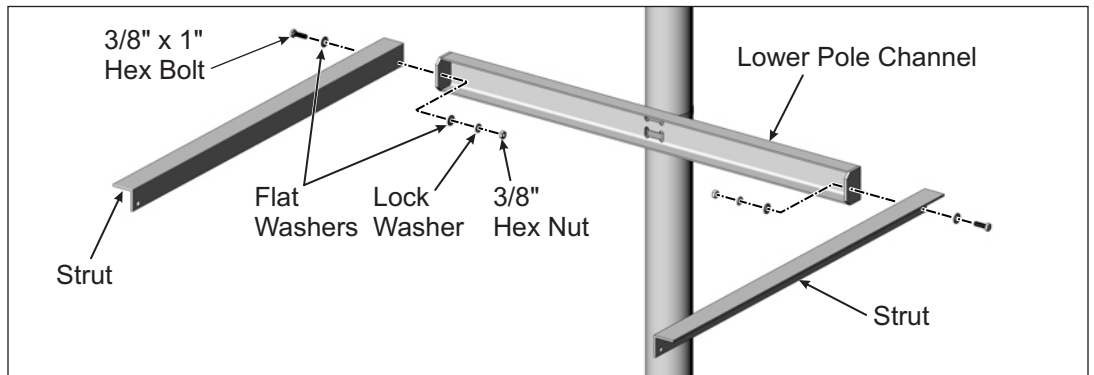

Figure 2-1: Attaching Struts to Pole Channel
The two Struts are attached to the ends of the lower Pole Channel using 3/8" x 1" hex bolts and hardware. (See Figure 2-1)
- A. Orient and align the left Strut as shown in Figure 2-1. Secure with one 3/8" x 1" hex bolt, lock washer, flat washers and Hex Nut. Finger tighten for now.